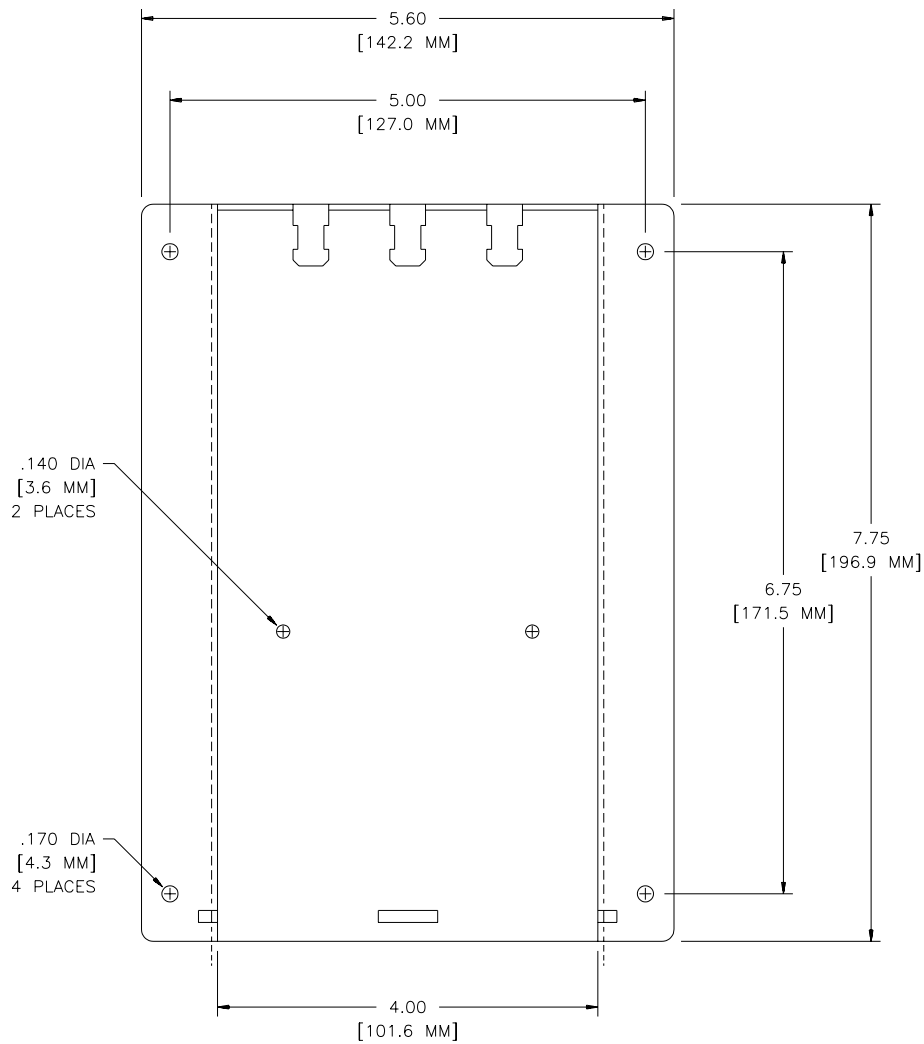

FIG. 8 SE-TC mounting dimensions
3. Drill four #6-32 holes into the SE-TC mounting surface in the locations shown in FIG. 8.